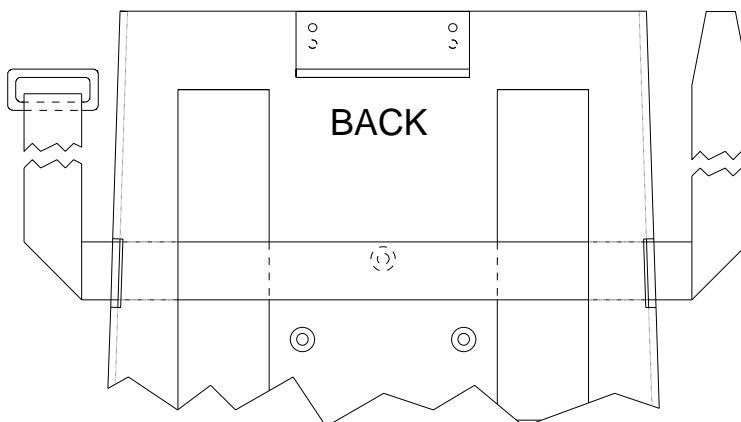

Figure 1, Monitor Base Plate for 15" Sampo Monitor.
NOTE: If you are MOUNTING a 15" Sampo monitor, the Back Mounting bracket must be turned around as shown in Figure 1.
51. Using the **Select “+”** or **“-”** buttons on the front of the monitor, highlight **Horizontal Sizing** symbol, as shown in figure 1 below.
53. Using the **Select “+”** or **“-”** buttons on the front of the monitor, highlight **Vertical Position** symbol, as shown in figure 1 below.
55. Using the **Select “+”** or **“-”** buttons on the front of the monitor, highlight **Vertical Sizing** symbol, as shown in figure 1 below.